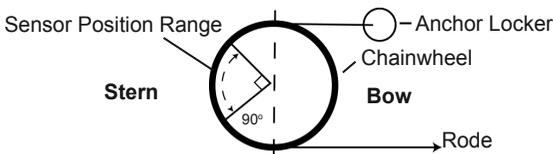

Fig 5
**Sensor Position for Vertical Windlasses Using Rope and Chain Rode:** The hole must be within the sensor position range at the stern end of the windlass (See Fig 5). The sensor must also be aligned with the magnet so that the rode passes between the sensor and the magnet. The centre of the magnet and the centre of the sensor may be up to 10mm out of direct alignment. (See Fig 6)